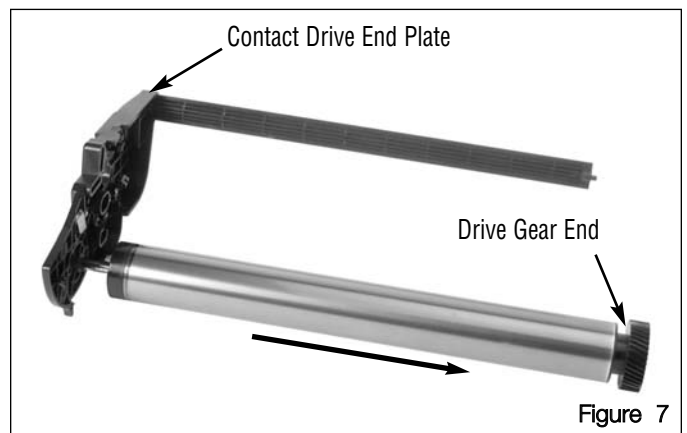

Figure 7
6. Remove the Organic Photoconductive (OPC) Drum from the Cartridge by grasping it on the Drive Gear end and pulling off the Drum axle on the Contact End Plate (Figure 7).